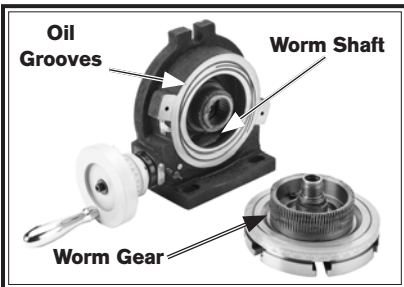

Figure 17. Locations of worm gear and shaft with the table removed.
6. Remove the table from the housing, as shown in **Figure 17**.
9. Use a clean shop rag and mineral spirits to wipe clean the mating surfaces of the housing and table, then apply a thin coat of light machine oil to the housing oil grooves and surrounding surface (see **Figure 17**).